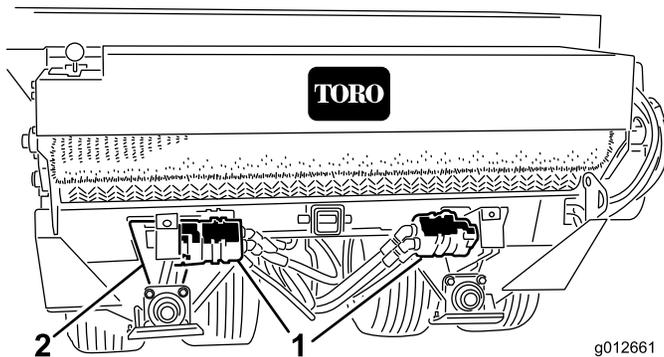

Figure 16
1. Loosen carriage bolts and nuts securing hydraulic motor/pump to axle cradle (Figure 16).